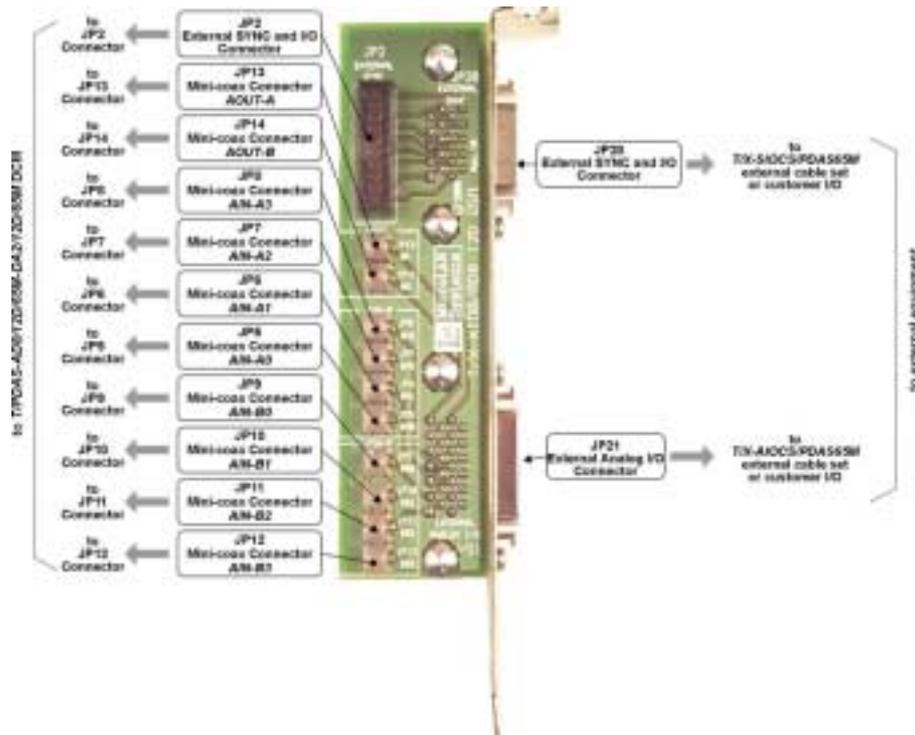

Fig. C-2. *T/X-XIOB/PDAS65M* external I/O board.
*T/X-XIOB/PDAS65M* external I/O board (fig.C-2) comes standard with *T/PDAS-AD8/12D/65M-DA2/12D/65M* DCM and must be used for connection to external devices using industry standard connectors via *T/X-SIOCS/PDAS65M* and *T/X-AIOCS/PDAS65M* external cable sets and via rear panel of PC chassis.